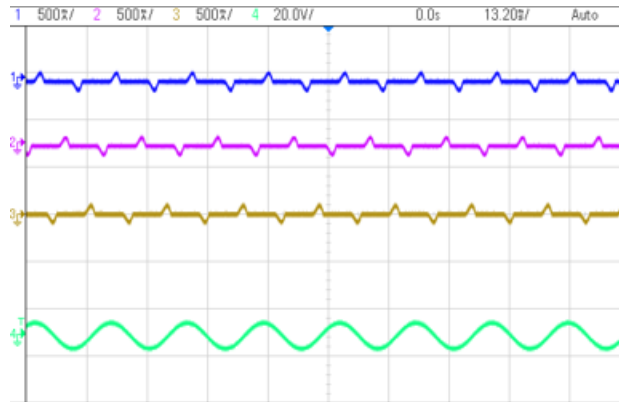

Figure 30. Build Level 2: Scope Capture IL1, IL2, IL3 and V1 (40Vrms L-N) With PWM Tripped
3. The input current and voltage will look like Figure 30.